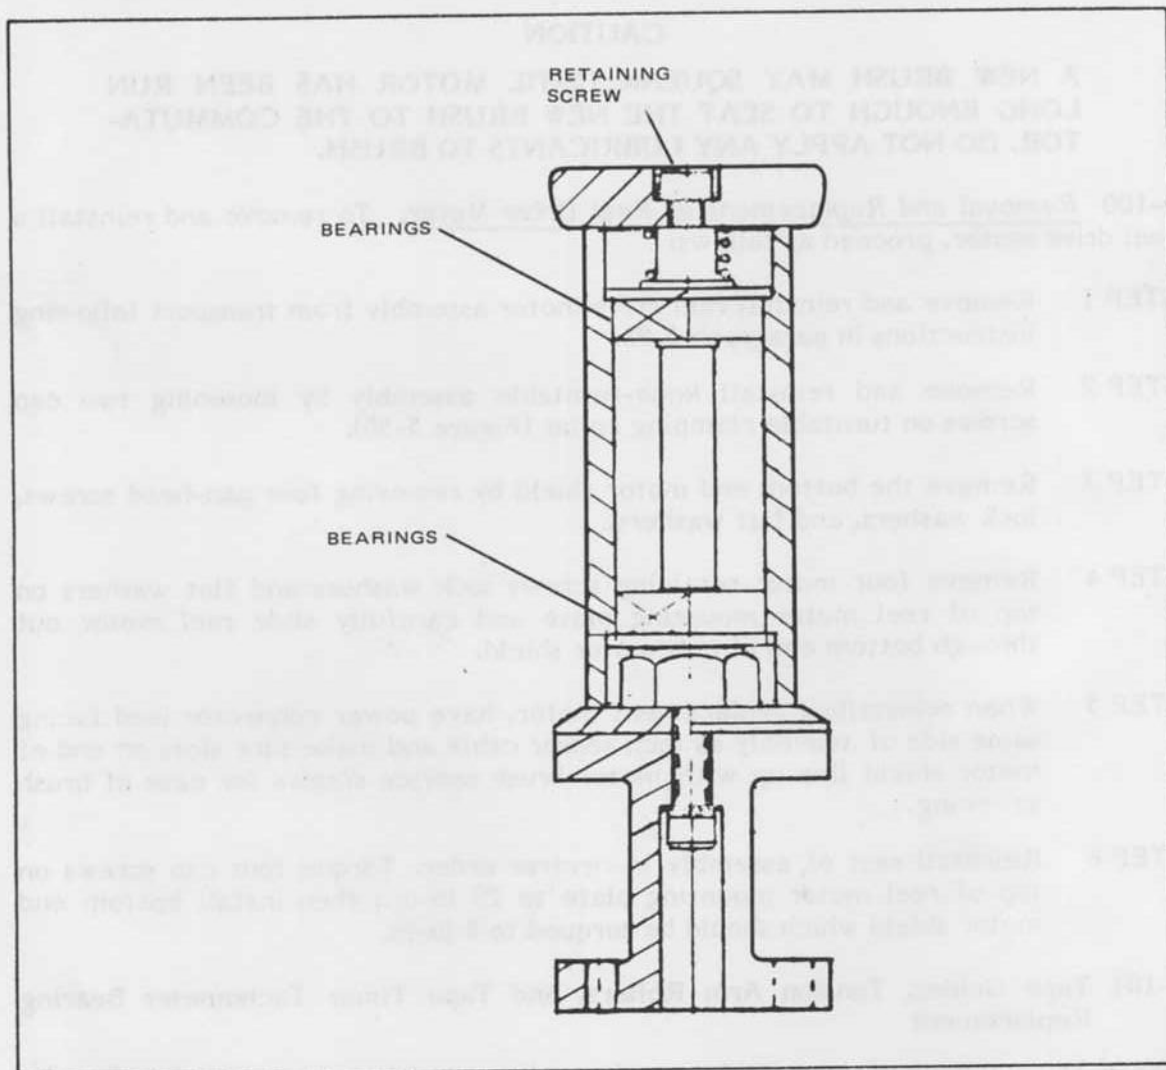

Figure 5-51. Tape Guide Bearing
- STEP 1 Remove cover or retaining cap from assembly (Figures 5-51, 5-52, or 5-53). Note: Tape guide and tape timer tach covers are retained by a screw that must be removed before cover can be removed. Tension rollers are retained by a threaded cap that can be removed without use of tools.